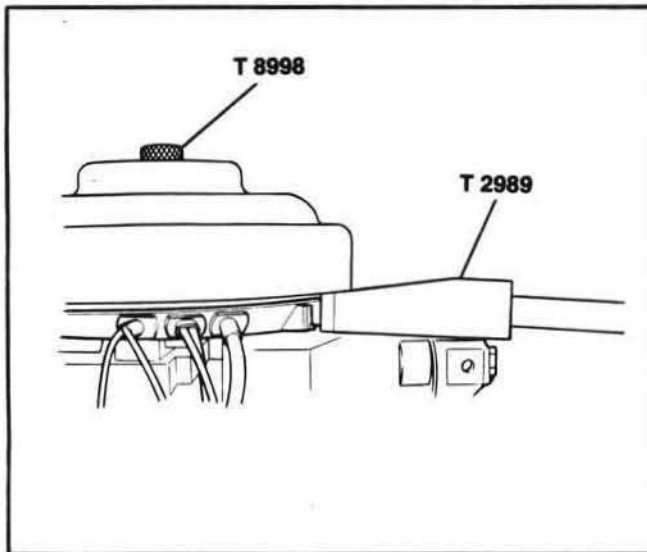

Figure 2. Removing Flywheel.
3. Pry up on flywheel with removal tool and tap knock-off screw with 16 oz. hammer. Figure 2.